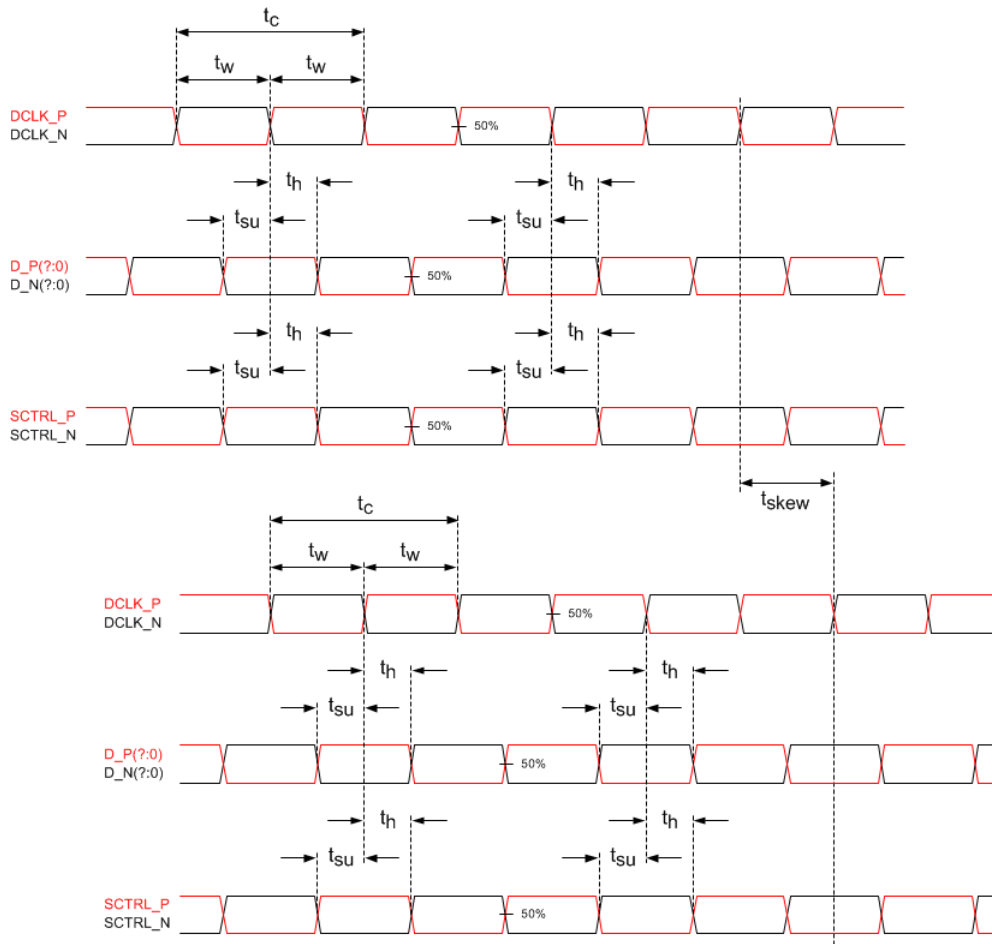

Figure 5. Timing Requirements
- See LVDS Timing Requirements in Timing Requirements and Figure 5.
(1) See Figure 5 for timing requirements for LVDS.
(2) Channel A (Bus A) includes the following LVDS pairs: DCLK\_AN and DCLK\_AP, SCTRL\_AN and SCTRL\_AP, D\_AN(15:0) and D\_AP(15:0).
(3) Channel B (Bus B) includes the following LVDS pairs: DCLK\_BN and DCLK\_BP, SCTRL\_BN and SCTRL\_BP, D\_BN(15:0) and D\_BP(15:0).